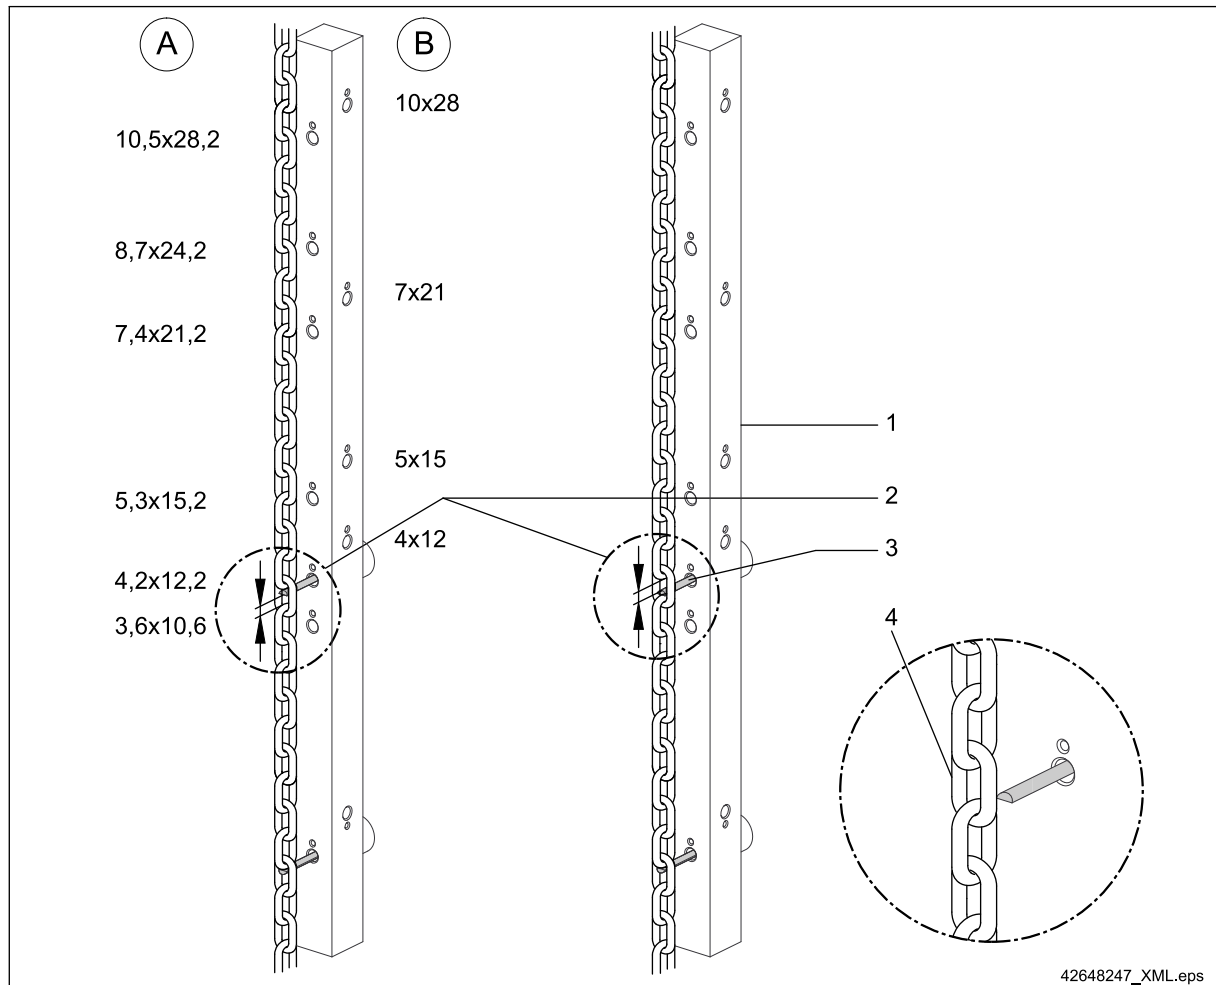

Fig. 46
- on 11 chain links ⇒ Fig. 46, Page 76.